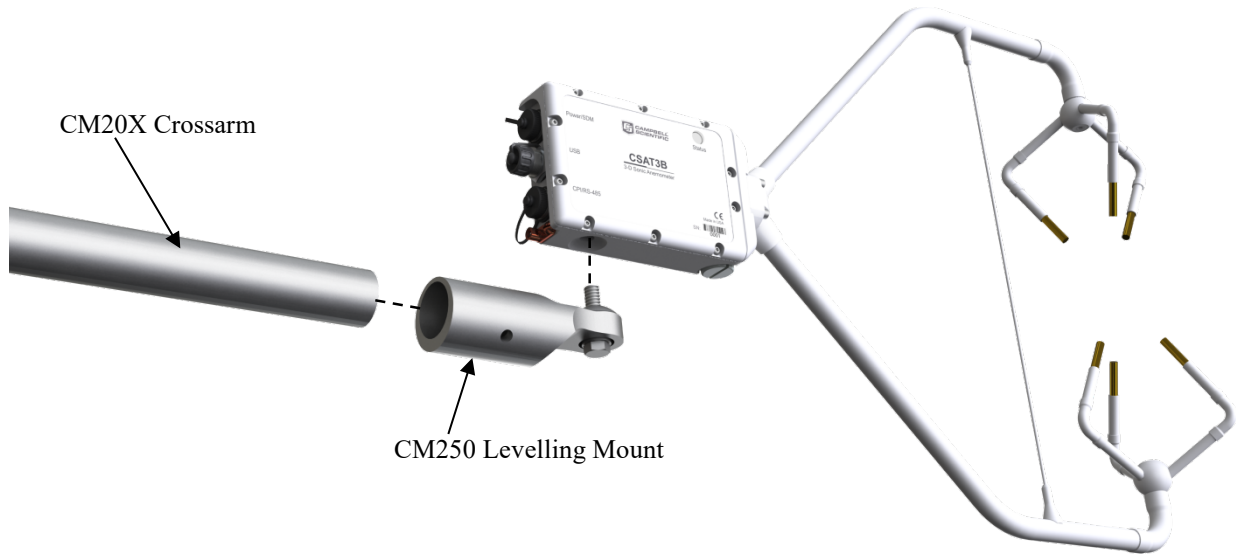

FIGURE 4-2. CSAT3B mounting
2. Mount the CM250 levelling mount to the end of the crossarm as shown in FIGURE 4-2.
3. Use the captive bolt on the CM250 to mount the CSAT3B (FIGURE 4-2). The orientation of the CSAT3B should be level and pointing in the direction of the prevailing wind.